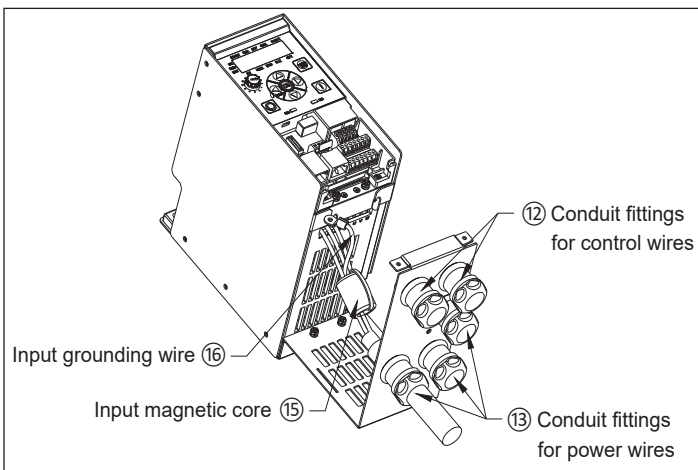

Figure 6. Routing the input grounding wire and input magnetic core.
- A. Run input cable (1P: 2 line wires + 1 input grounding wire; 3P: 3 line wires + 1 input grounding wire) through the power wires conduit fitting ⑬ and input magnetic core ⑮, then connect it to the input terminals (1P: L2/L3; 3P: L1/L2/L3). Leave the input grounding wire ⑯ unconnected. Tie the input magnetic core to the input wires with a cable tie (see Figure 6).